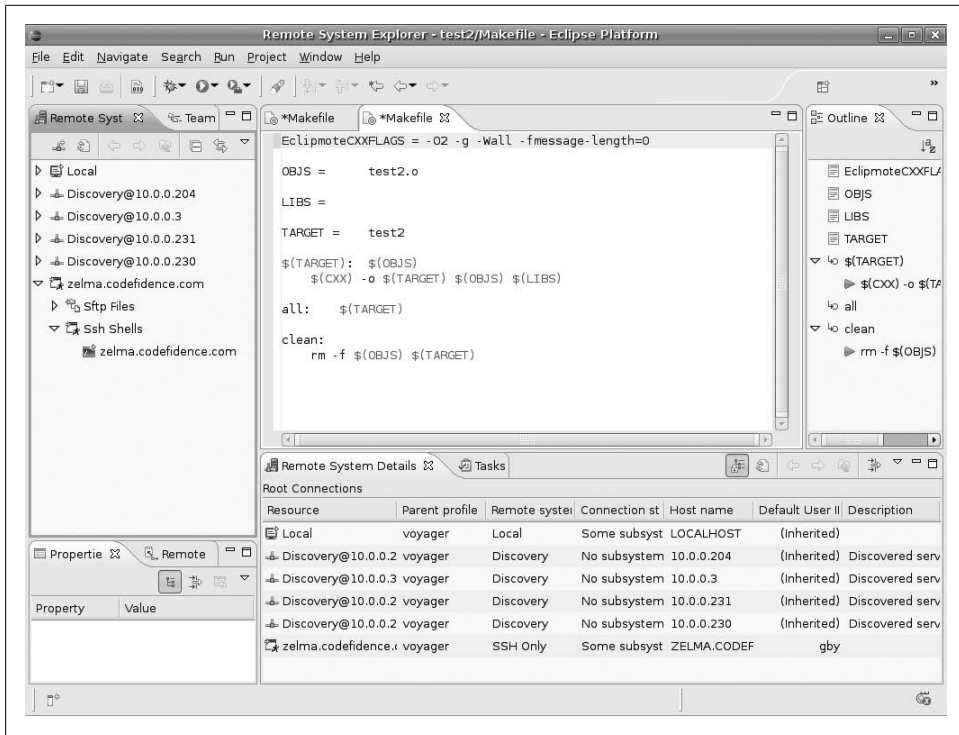

Figure 4-13. Eclipse Remote System Explorer browser
**Defining remote connections.** To use all the features the RSE framework has to offer, you must configure some remote machines or target boards to interact with. To do this, open the Open Perspective submenu in the Window menu and choose Remote Systems Perspective (Figure 4-13).